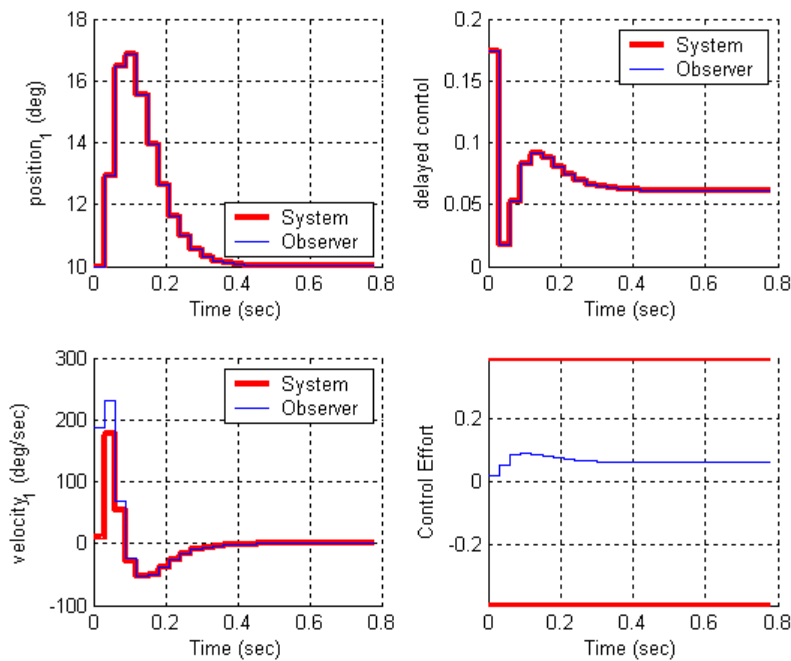

Figure 3. Results for problem **1d**.
d) Now assume the same conditions as c, but with a sampling interval of 0.03 seconds. For a 10 degree step input you should get the graph shown in Figure 3. Turn in your plot.